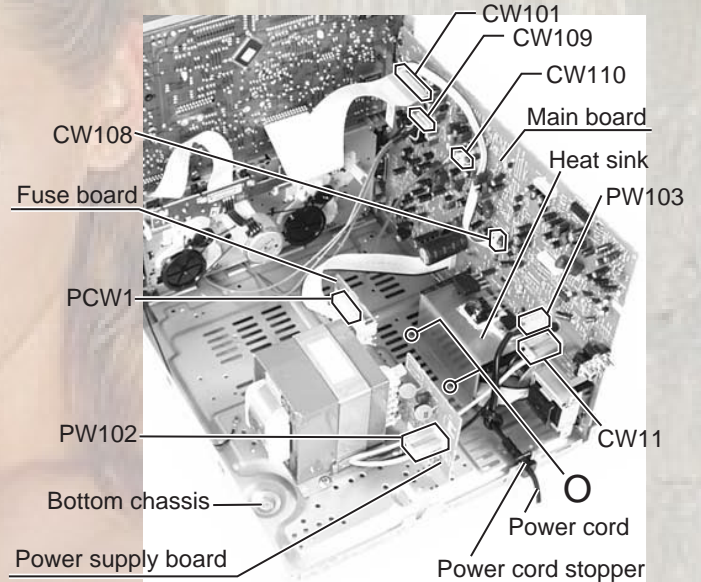

Fig.14
**Removing the main board (See Fig. 14)**
**Removing the power cord (See Fig. 14)**